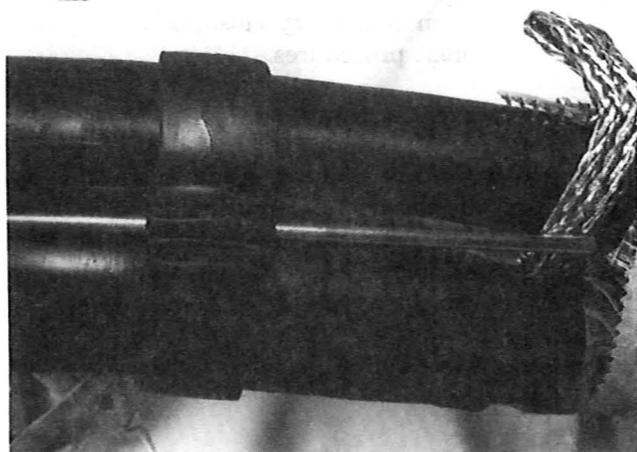

Fig. 3
3. Equip a one-foot length of metal or polyethylene tubing with a valve (core removed). Roll 2 laps of B sealing tape on the cables as shown in Fig. 3. The tube in the figure is a C flash